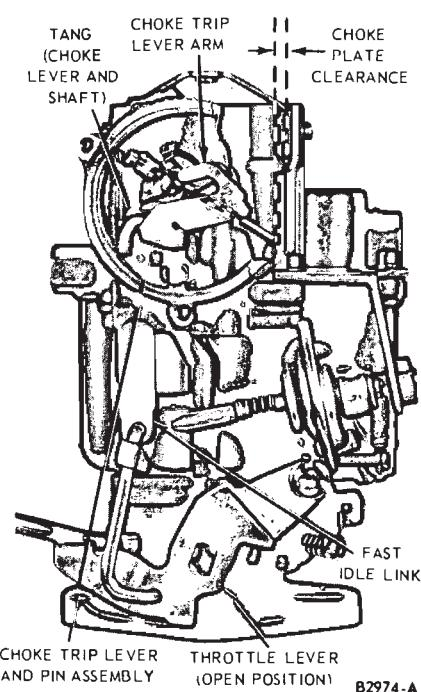

FIG. 3—Choke Plate Clearance Adjustment
2. Hold the throttle plate fully open and close the choke plate as far as possible without forcing it. Use a drill of the proper diameter to check the clearance between the choke plate and air horn (Fig. 3.).